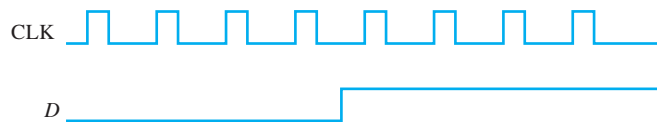

FIGURE 7-82
13. Solve Problem 12 for the input in Figure 7-82.